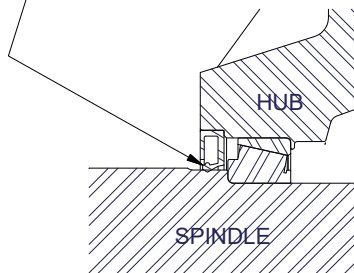

FIG. 4-37
6. For Hub disassembly: Remove seal and inspect bearings, spindle washer, castle nut and cotter pin. Replace if necessary. Pack both bearings with approved grease and reinstall inner bearing. Install new seal in hub with garter spring facing the hub by tapping on flat plate that completely covers seal while driving it square to hub. (FIG. 4-37) Install until flush with back face of hub. Using a 250 lb. rated lifting device, install hub assembly onto spindle. Install outer bearing, spindle washer and castle nut.